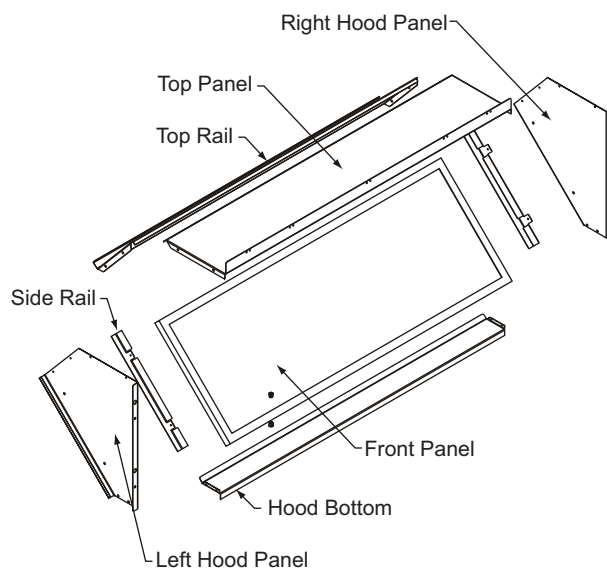

Fig. 35 — Assemble Outside Air Hood
5. To assemble the outside air hood, the following will be needed. See Fig. 35.